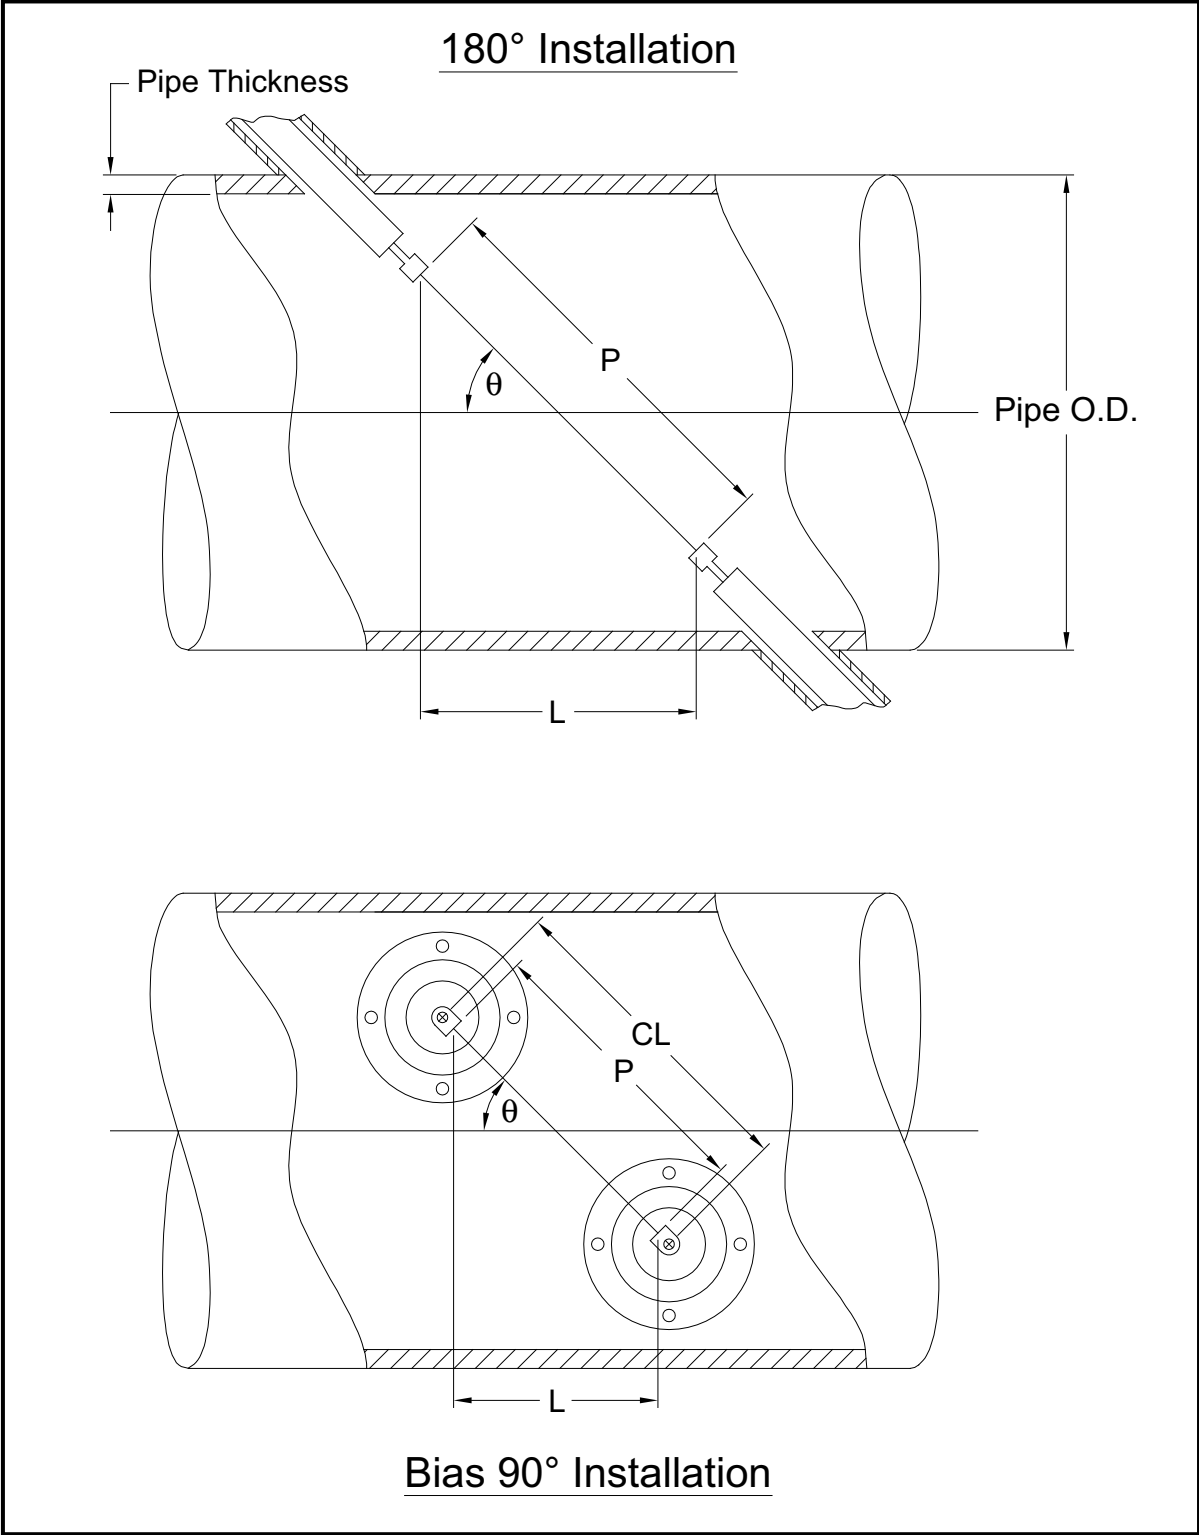

Figure 18: Top View of Typical Transducer Installations
The accuracy of the programmed P and L values is critical to precise flow rate measurements. If Panametrics supplies the flowcell for the system, the correct values will be included in the documentation supplied with the system. For transducers installed on an existing pipe (see Figure 18 on page 56), P and L must be measured at the site. This appendix provides instructions for properly determining these dimensions.
Whenever possible, physically measure the face-to-face distance (P) and the axial distance (L) between the centers of the flat faces of the transducers. Refer to *Figure 18 on page 56* for an illustration of the proper distances to measure, in a typical installation.
With a Bias 90° transducer installation, it sometimes happens that the only known parameters are the transducer angle (θ) and the centerline distance between the transducer bodies (CL). In these cases, it is still possible to calculate P and L by combining *Equation C-1* above with the additional *Equation C-2* below (see *Figure 18 on page 56*):